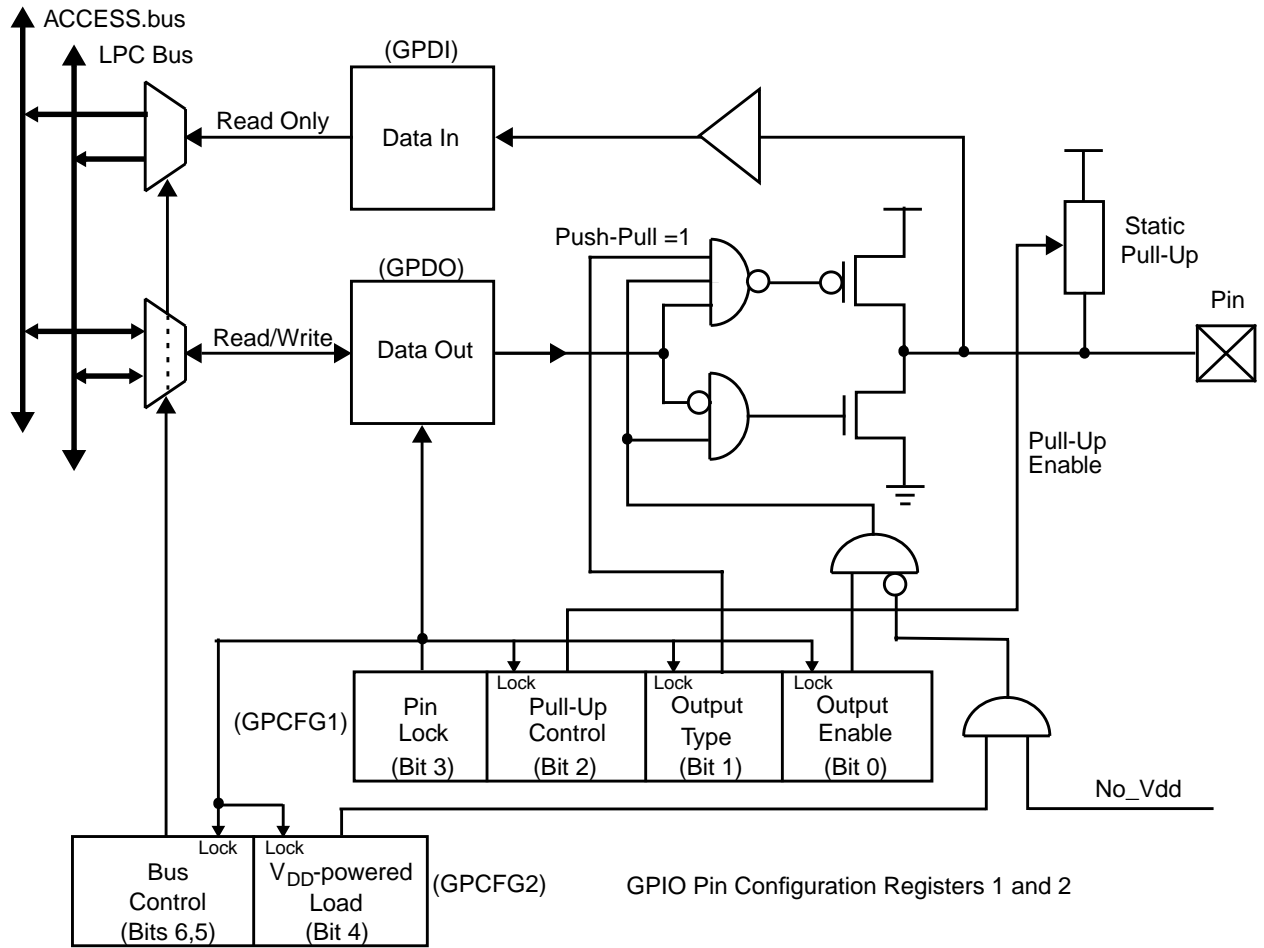

Figure 36. GPIO Basic Functionality
The basic functionality of each GPIO pin is based on four configuration bits and a bit slice of runtime registers GPDO and GPD1. The configuration and operation of a single pin GPIOXn (pin 'n' in port 'X') is shown in Figure 36.
- Access Control - Limits access to the specific pin from only one of the buses (ACCESS.bus or LPC bus). When access from a bus is disabled, attempted writes to the Basic Functionality configuration registers (GPCFG1 bits 3-0 and GPCFG2 bits 6-4, none of which are shown in Figure 36) and to the corresponding bit in the GPDO register are ignored. Reads from the bits above and from the corresponding bit in the GPDI register are allowed and return the actual bit value. Bus access is controlled by Bus Control bits (bits 6 and 5). After reset, both bits are '0' and access is allowed from both ACCESS.bus and LPC bus. **In the PC87414 and PC87416, this feature is irrelevant because only the LPC bus is available.**